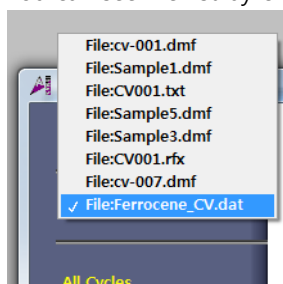

Figure 11. Uploaded File list
- You can see following figure 11
- b. You can see following figure 11